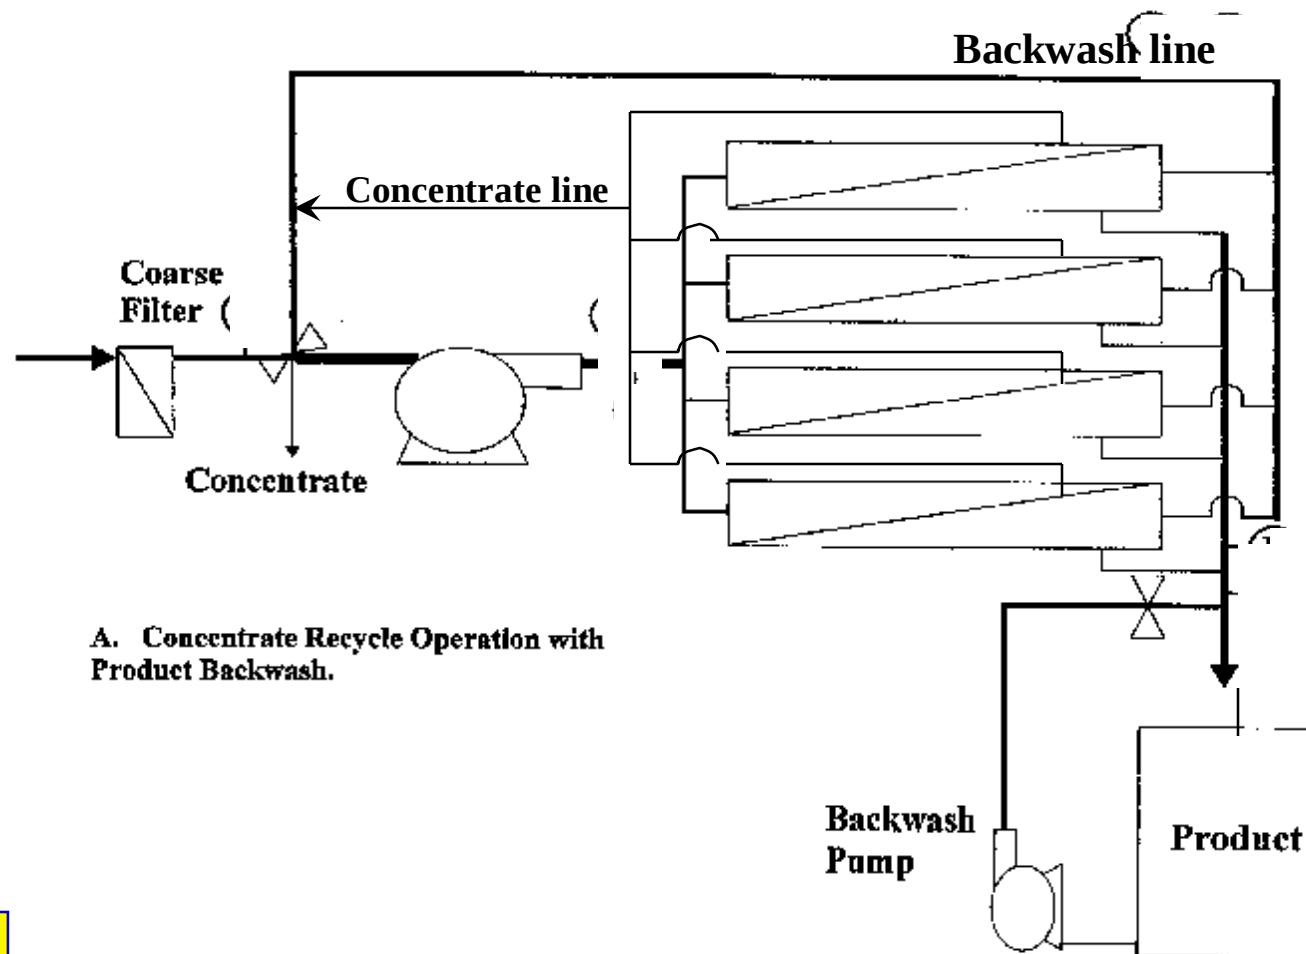

Fig. 4.17
- Units are arranged in parallel to meet the flow requirements, and arranged in series to increase the treatment efficiency, see Figures 4.17, 4.18, 4.19, and 4.20 .